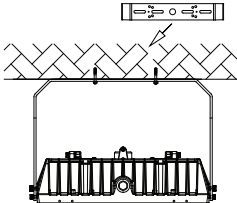

Figure 4
- 4.Tighten the nut of the screws (Figure 4).